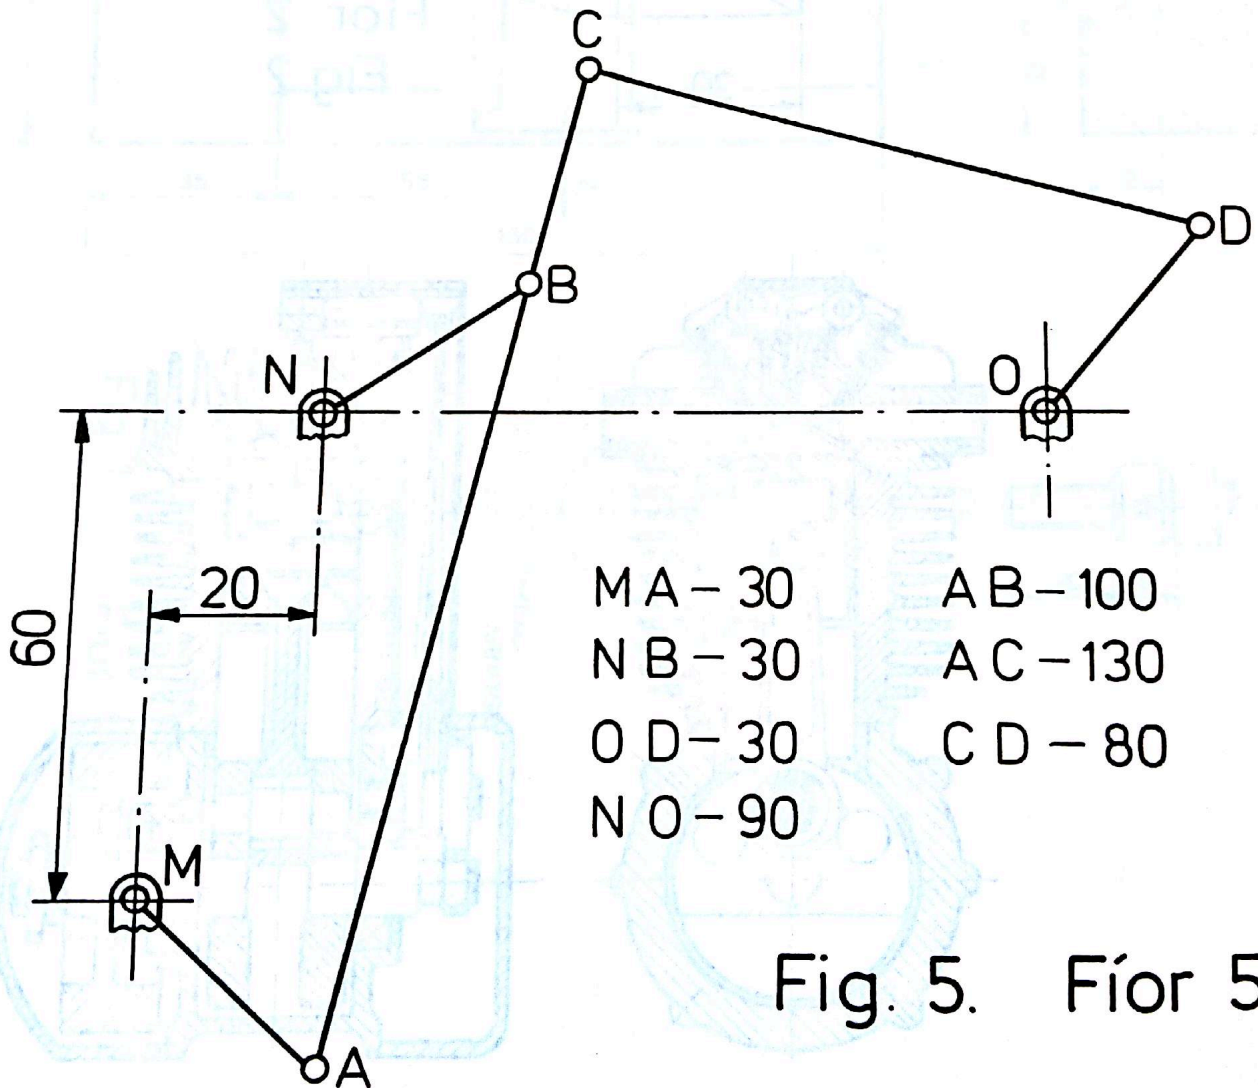

Fig. 5. Fíor 5.
5. In the link mechanism shown in Fig. 5 the cranks MA, NB and OD rotate about M, N and O.